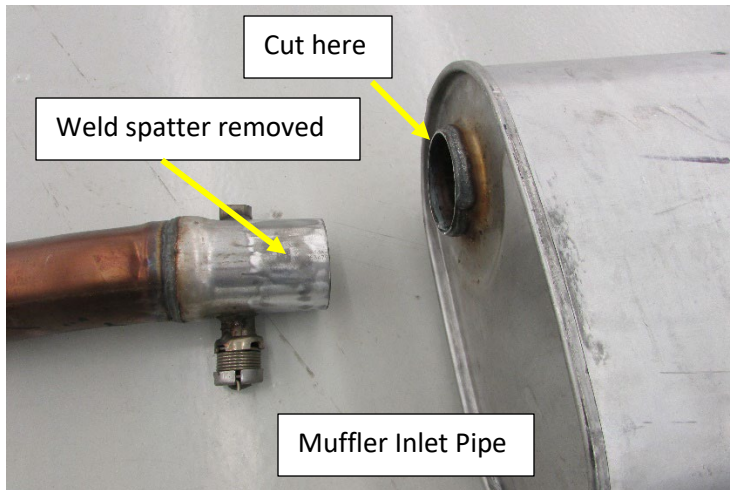
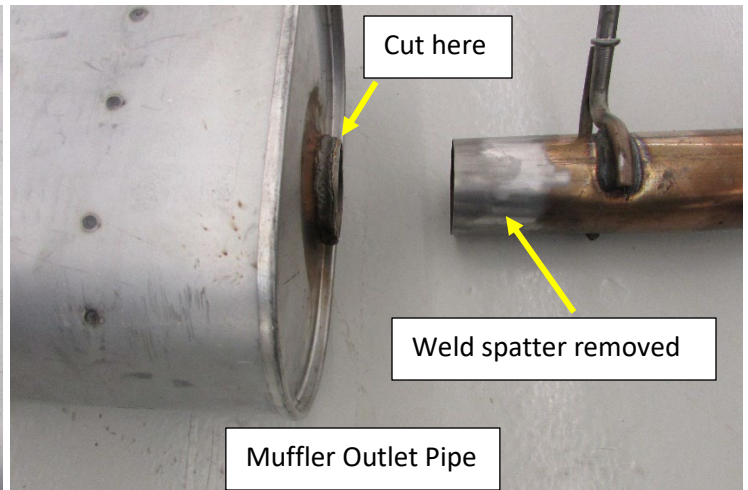
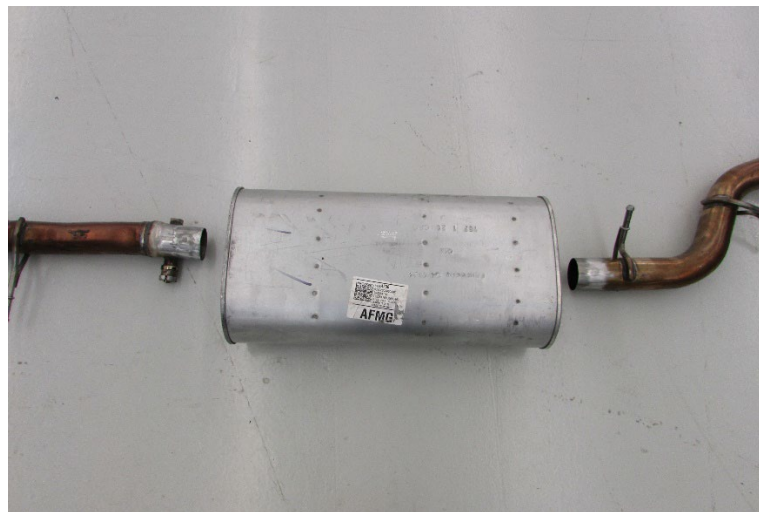

Figure.2
Figure.3
Figure.4
6. Loosen the 13mm bolt on the band clamp just before the flex section of the OEM muffler inlet pipe. Remove the forward hanger rod from isolator on the frame rail and remove the OEM muffler assembly. **Fig.2**
1. Using a reciprocating saw or cut off wheel. Make a clean and straight cut just in front of the weld on both the Muffler Inlet Pipe and the Muffler Outlet Pipe. **Fig.2 / Fig.3 / Fig.4**